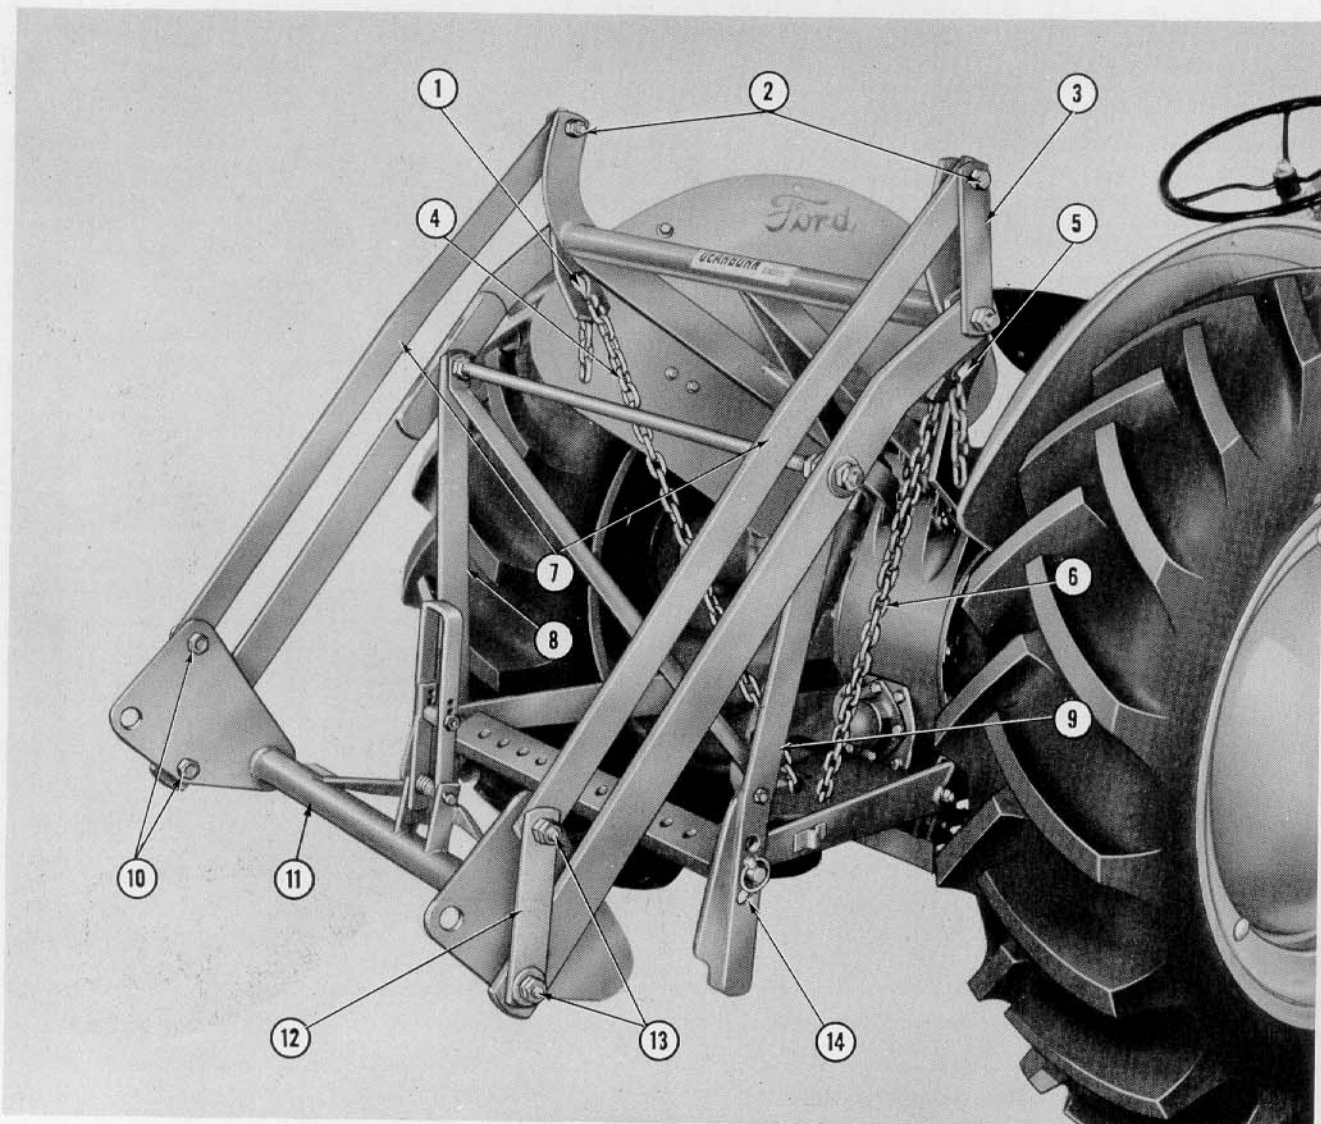

Figure 7
- a. Insert the two bolts (2), Figure 7, and place a  $1\frac{3}{16}$ " x  $1\frac{1}{16}$ " spacer over each bolt. Lubricate each spacer with gun grease.
- b. Place the upper lift arms (7), Figure 7, over the spacers as shown. Rotate each upper locking link (3) until the top holes align, then insert the bolts (2) and secure with the nuts and jam nuts provided.
- c. Place the fork cradle assembly (11), Figure 7, between the left and right lift arms as shown. Insert the four bolts (10) and (13).
- d. Place a  $1\frac{3}{16}$ " x  $1\frac{1}{16}$ " spacer over each of the four bolts (10) and (13), Figure 7. Lubricate each spacer thoroughly with gun grease. Position a lower lock link (12) on each side of the assembly and secure with the nuts and jam nuts provided.
**BREAKAWAY HEIGHT:** Breakaway height is the height at which the fork is raised vertically from the ground before the loader lift arms swing rearward. This height can be adjusted by lengthening or shortening the link stop attaching chains. To increase the breakaway height of the fork, increase the length of each link stop attaching chain (4) and (6) at the brackets (1) and (5), Figure 7, until the desired breakaway height is obtained. Both chains should always be adjusted to the same length.
**DUMPING CLEARANCE:** The dumping clearance is affected by two adjustments. To increase the dumping clearance, position the loader lift struts (8) and (9), Figure 7, in one of the two lower holes (14) provided. If additional dumping clearance is desired, shorten the stop link attaching chains (4) and (6), Figure 7, however this will decrease the fork breakaway height.
**DEPTH:** To obtain maximum depth, position the loader lift struts (8) and (9), Figure 7, in the top hole of the three holes (14) provided. This adjustment will increase the depth, however the dumping clearance will also be decreased.